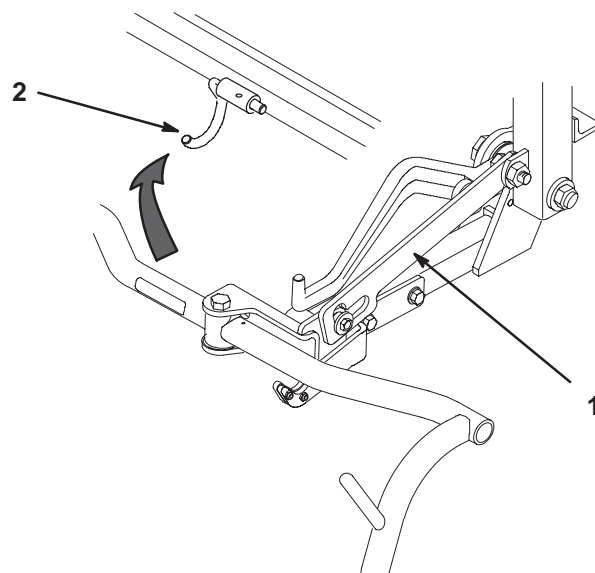

Figure 12
- Lift up on the slotted link and rotate the pull frame into the wire hook (Fig. 12).